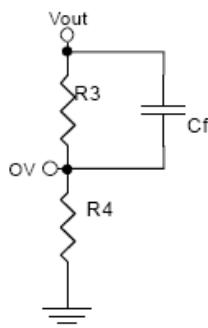

Figure 4. Add Forward Capacitor
- (1) Add a small capacitor (<100pF) parallel with the up divider resistor (See Figure 4).